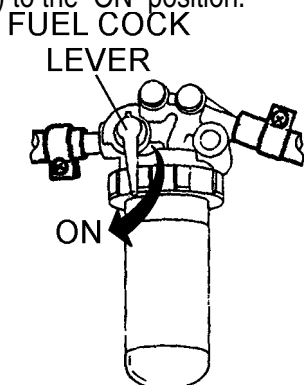

Figure 18. Fuel Cock Lever (ON)
1. Open the cabinet door and turn the fuel cock lever (Figure 18) to the "ON" position.